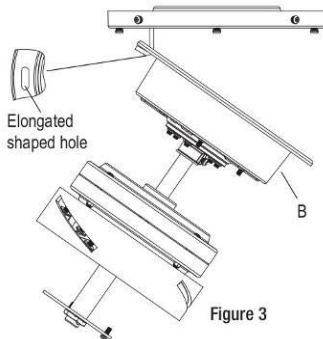

Figure 3
- Carefully lift the fan-motor assembly (B) and hang the fan-motor assembly (B) on the hook of the mounting plate (A) by utilizing the hole edge trim of the fan-motor assembly plate (B) and make sure it is securely suspended, Figure 3.